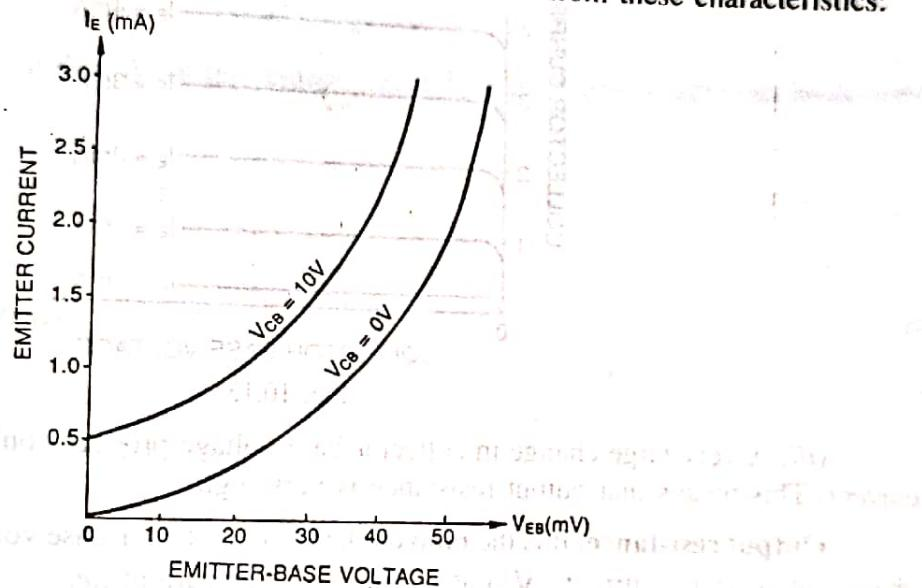

Fig. 10.12
1. Input characteristics. It is the curve between emitter current I_E and emitter-base voltage V_{EB} at constant collector-base voltage V_{CB} . The emitter current is generally taken along y -axis and emitter-base voltage along x -axis. Fig. 10.12 shows the input characteristics of a typical transistor in *CB* arrangement. The following points may be noted from these characteristics: